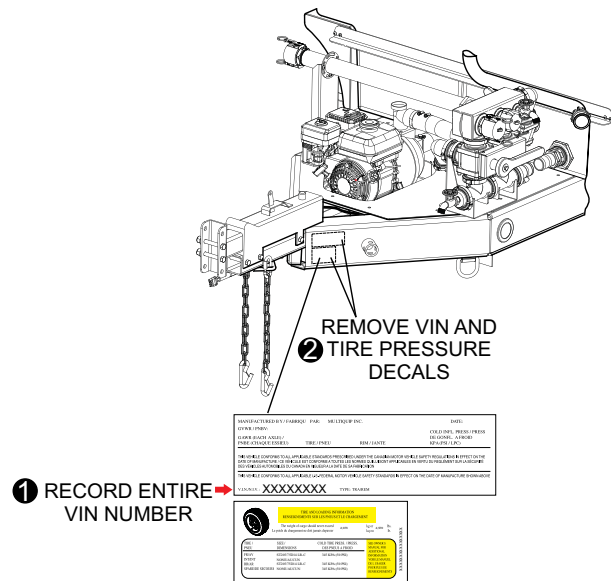

Figure 2. VIN/Tire Pressure Decal Removal
1. Record the entire VIN identification number displayed on the VIN decal. Also **record** the last **five** digits of the VIN number that is stamped into the trailer frame (Figure 2).
2. Remove the VIN and tire pressure decals as shown in Figure 2.